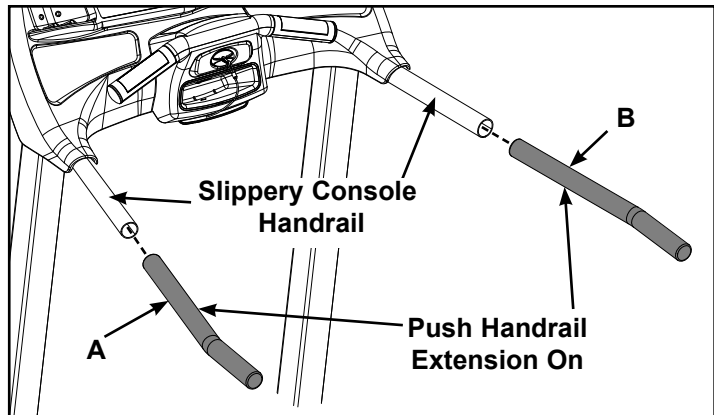

Figure 41
- B. Dampen a clean cloth in a mild soapy water solution and spread it on each console handrail. Feel the handrail to be sure it is slippery. See Figure 41.
- C. While the console handrail is still wet and slippery, push each handrail extension on the console handrail. See Figure 41. **NOTE:** Push until hearing metal touching metal inside the grips and the grip holes line up with the holes in the handrail.